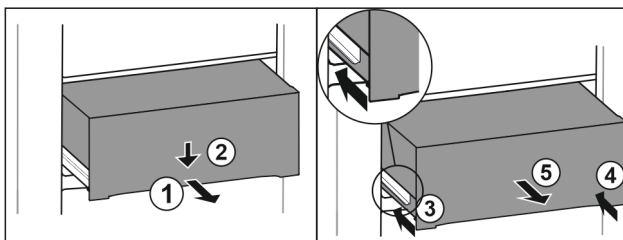

Fig. 145
- ▶ Pull out drawer half-way. Fig. 145 (1)
- ▶ Push the drawer down at the front. Fig. 145 (2)
- ▶ Push the left rail in by about 2 cm. Fig. 145 (3)
- ▶ Push the right rail in by about 2 cm. Fig. 145 (4)
- ▶ Remove drawer to the front. Fig. 145 (5)